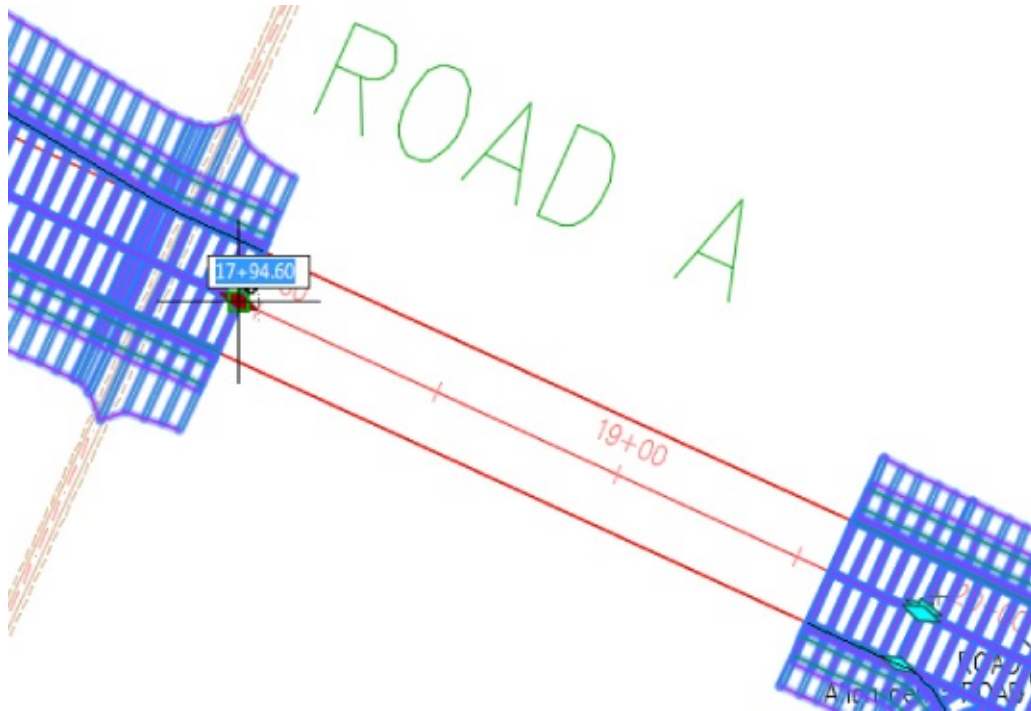

Figure 10.41 Stretching the region to match up with adjacent region.
4. Grab the leftmost diamond shape region grip, which coincides with ROAD A alignment, and drag it over to the adjacent diamond shape region grip in the ROAD A-ROAD E intersection, as shown in Figure 10.41.